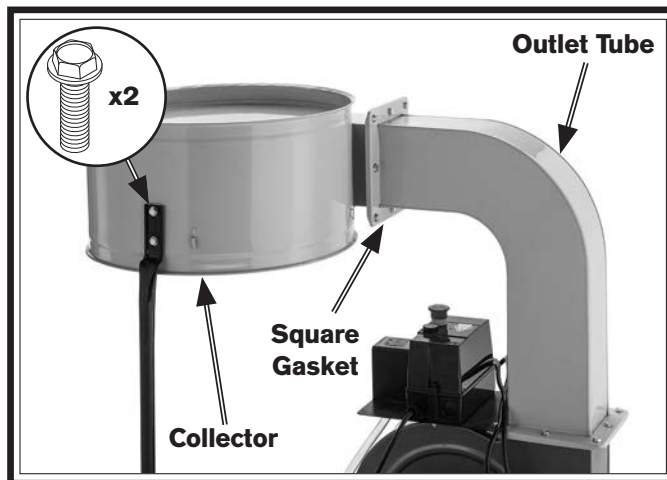

Figure 18. Collector attached to outlet tube and canister support.
11. While an assistant holds collector, insert square gasket between collector and outlet tube, then secure collector to outlet tube with (8) $\frac{5}{16}$ "-18 x $\frac{1}{2}$ " flange bolts (see **Figure 18**).
12. Attach canister support to collector with (2) $\frac{5}{16}$ "-18 x $\frac{3}{4}$ " flange bolts (see **Figure 18**).